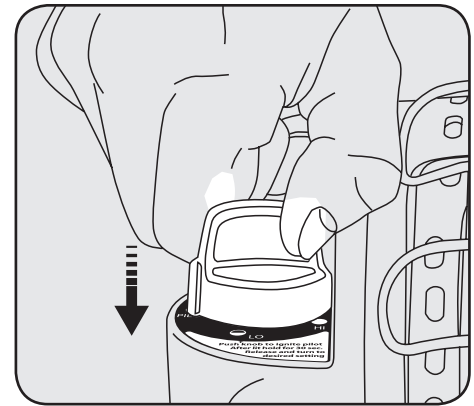
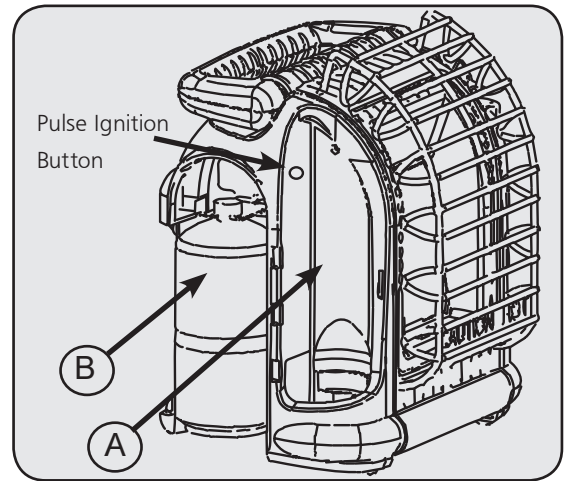

Figure 3
Figure 5
4. Turn Control Knob counterclockwise to "PILOT" position and depress. See Figure 3. While holding pilot button down, depress the pulse ignition button located in the accessory compartment (see Figure 5 on pg 6).
6. Turn Control Knob counterclockwise to "PILOT" position and depress. See Figure 3. While holding pilot button down, depress the pulse ignition button located in the accessory compartment (see Figure 5 on pg 6). This may take longer to purge air from the supply hose depending on the length of the hose being used.
The MH12HB has two storage compartments, with access doors, on the left side of the heater. See Figure 5.